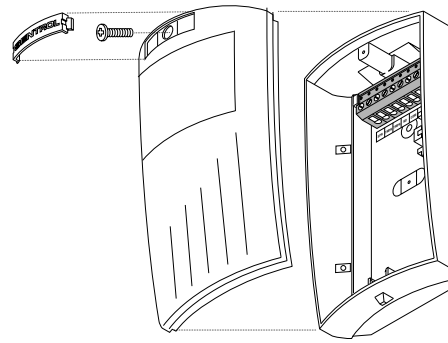

Figure 2. Detector (Exploded)
2. To remove the front cover/electronic module, remove the nameplate and loosen the screw if necessary. To remove the nameplate, insert a small screwdriver into one of the nameplate side slots and gently push in and pry up with the screwdriver. See Figure 2. Then press down on the top of the front cover with one hand, while holding the sides at the top of the back cover and squeezing in and pulling back with the other hand.
9. Tighten the screw and replace the nameplate. See Figure 2.